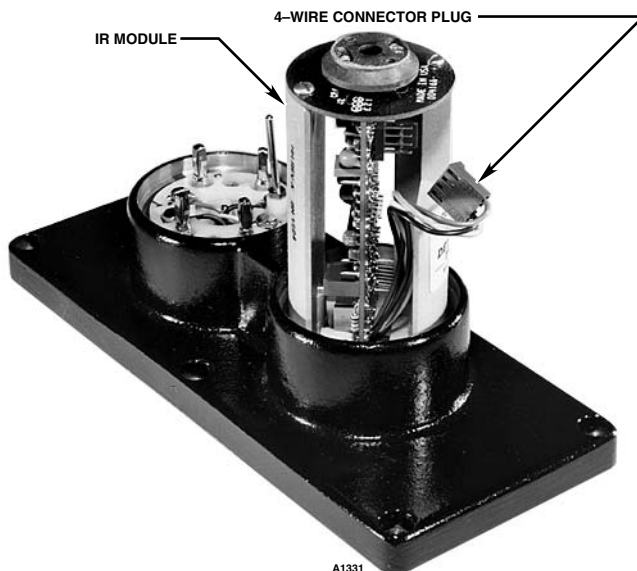

Figure 17—IR Module with Four-Wire Connector
9. If the IR sensor is already installed, proceed to step 12. If the IR sensor is not installed, remove the IR module from its shipping package (avoid touching the IR sensing element at the top of the module). Two IR sensor designs exist; the DE5500 is electrically connected via a wire harness on the junction box that must be threaded through the sensor module to a connector at the top of the module (see Figure 17), the DE3895 plugs directly onto a terminal block in the base of the IR housing via connectors on the bottom of the IR sensor module (see Figure 12).
11. If the IR sensor is the DE5500 type that connects via a wire harness (Figure 17), thread the wire leads and keyed connector plug through the slotted opening on the side of the IR module. Plug the IR module into the two banana plugs inside the junction box cover. If repositioning is necessary to properly align the **o**i lamps (as described in the “NOTE” below), this module can be rotated 180° and remounted on the banana plugs.